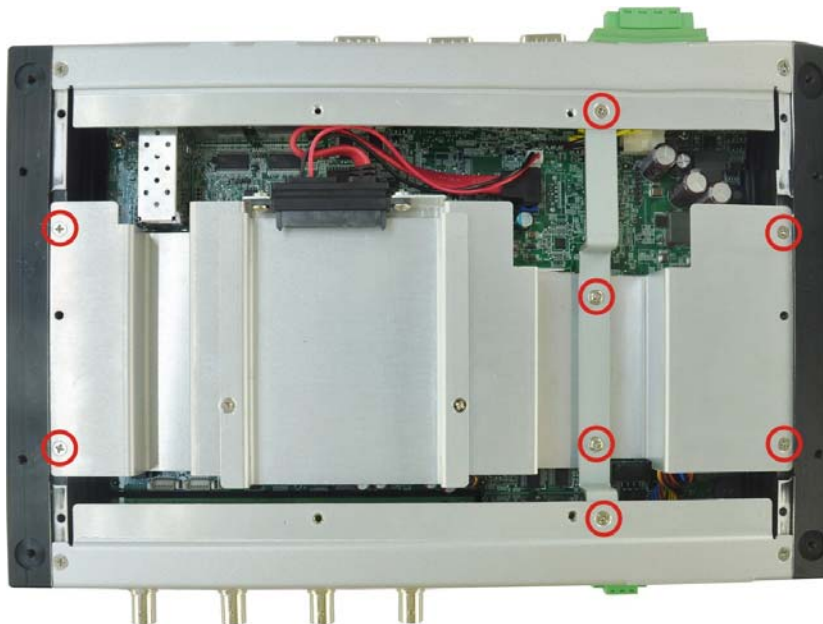

Figure 3-9: Retention Screws
- Step 2:** Remove the 8 retention screws (**Figure 3-9**), unplug the SATA signal and power cables connected to the TANK-700, and then lift the bracket out of the TANK-700.